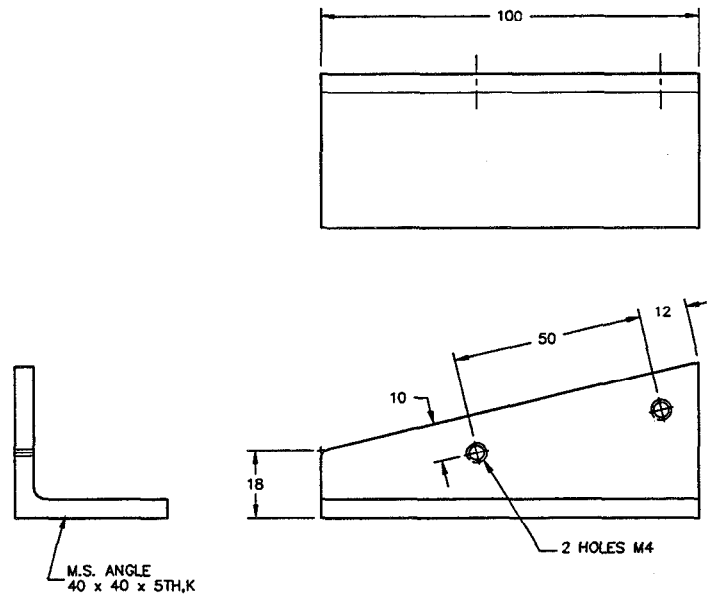

Figure 3 - Mounting Bracket, Switch
14. Manufacture Mounting Bracket, Switch and Mounting Bracket, Sensor (as detailed in Figures 3 and 4).